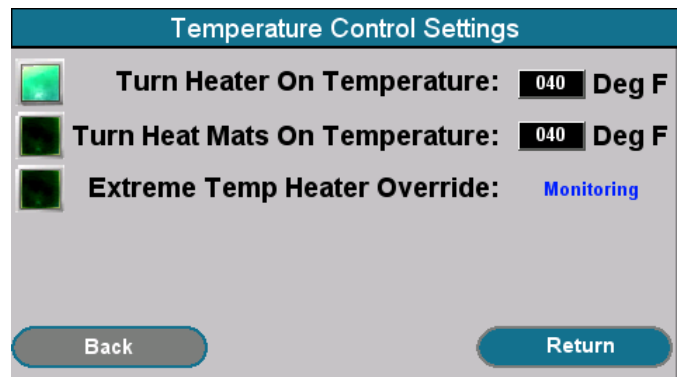

Fig. 7C
- [More] button to activate additional temperature controls option (Fig. 7C)
The Temperature Control Settings (Fig. 7C) screen displays additional temperature control options.